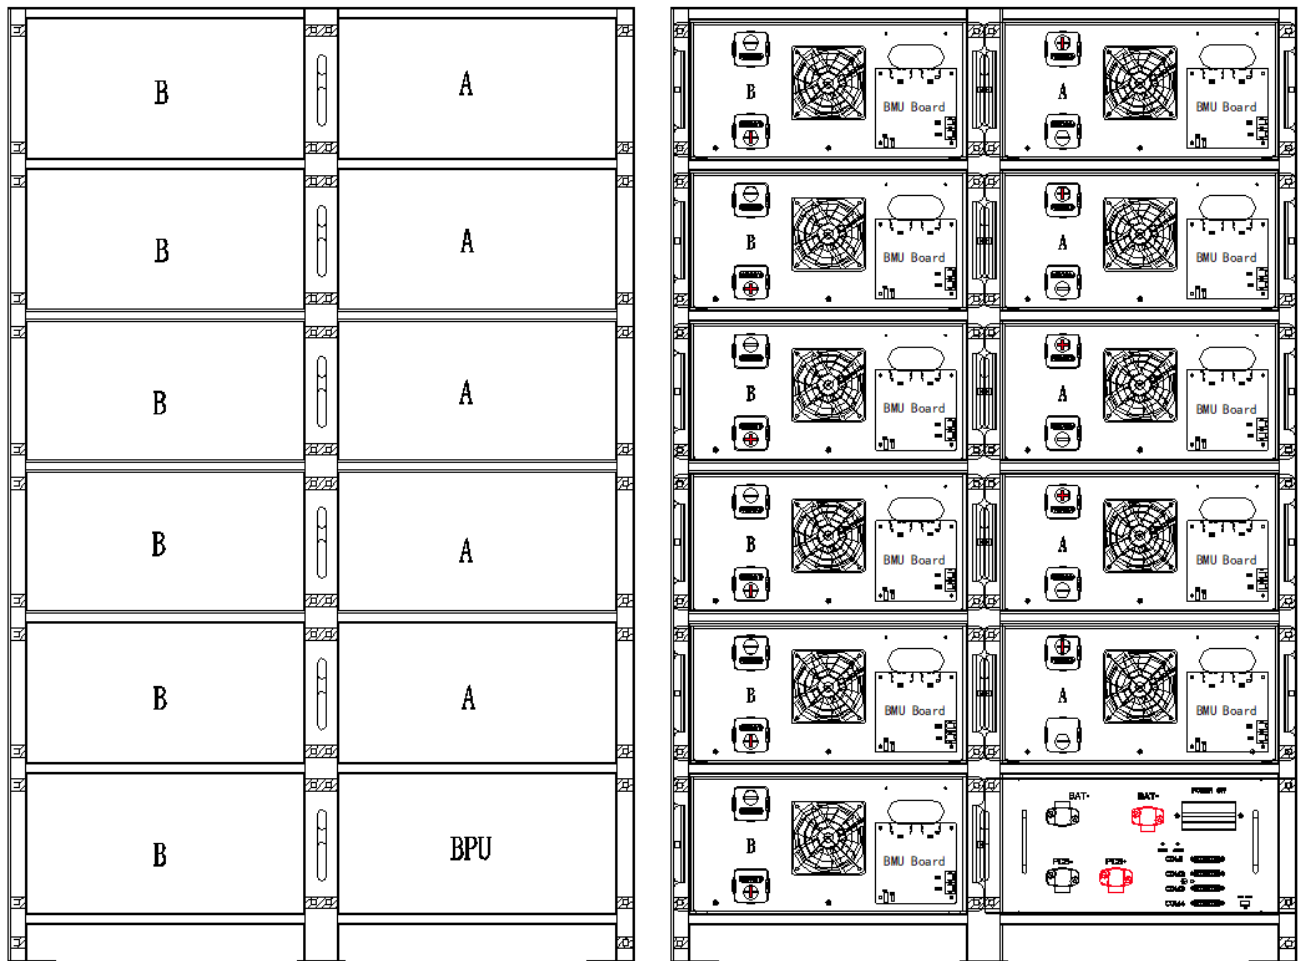

Figure 9 Battery pack and BPU-0.5C installation effect diagram
- 3) Determine the positions for installing battery pack and BPU based on Table 3. Generally, BPU and battery box-A are installed on the right, and battery box-B is installed on the left, and fix the battery pack to the battery rack with the matching M6 screws. For example, the BR157R installation diagram is shown in Figure 9.